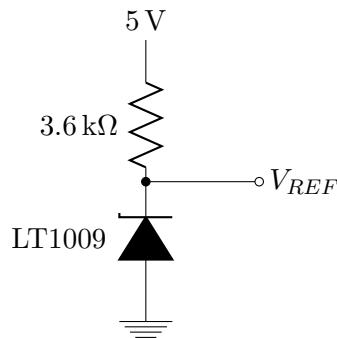

Figure 9: Schematic of the LT1009 precision voltage reference circuit.
1. Using Fig. 9 as a reference, build the regulator circuit on the breadboard. You should be able to find the LM317 pinout diagram from its datasheet, which you find from online. *As a general suggestion, it is important to keep your circuit well laid out and keep the connecting wires as short as*
Design a PCB incorporating the circuits of Fig. 9, 11, 14, and 16. We will add a resistive attenuator circuit just so that the output does not easily saturate. Fig. 20 shows a high level block diagram of the PCB.